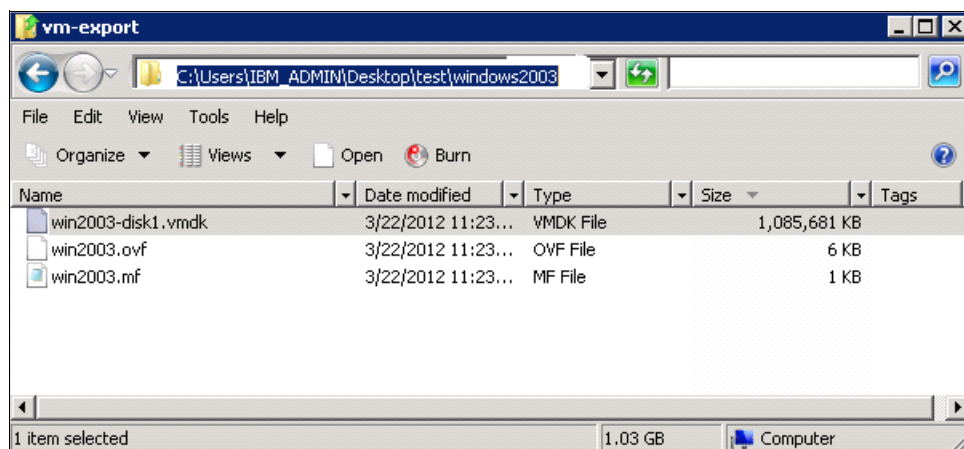

Figure 3-30 Export process complete
12. The time that it takes to complete the export process depends on the image size. After the process completes, the OVF package is shown in the directory that is selected for the export location, as shown in Figure 3-30.